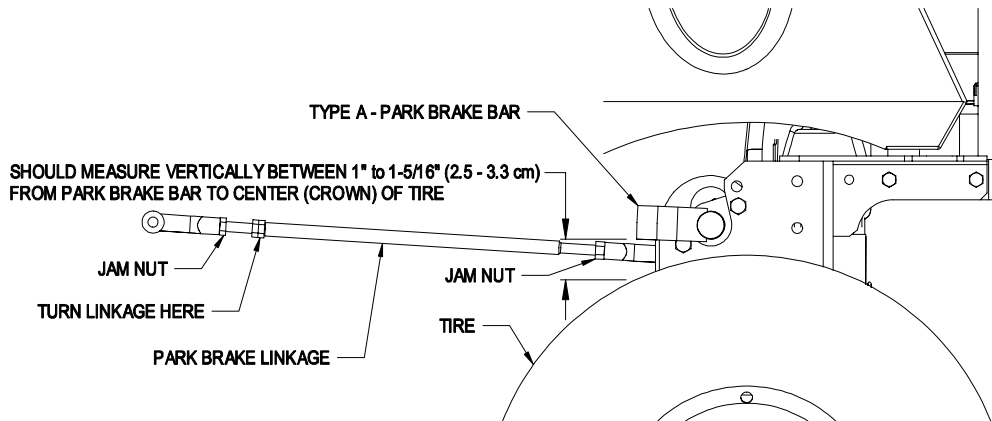

FIGURE 8
- c) There are two different park brakes available for your unit. See Figures 8 & 9 to determine if Type A or Type B is installed on your unit.
- d) Loosen the jam nuts next to the yoke at each end of the park brake linkage. See Figure 8 or 9.
- f) Turn the linkage until the distance from the lower front corner of the brake bar measures 1" (2.5 cm) to 1 5/16"(3.3 cm), depending on the type of park brake installed, with the park brake disengaged See Figure 8 or 9.